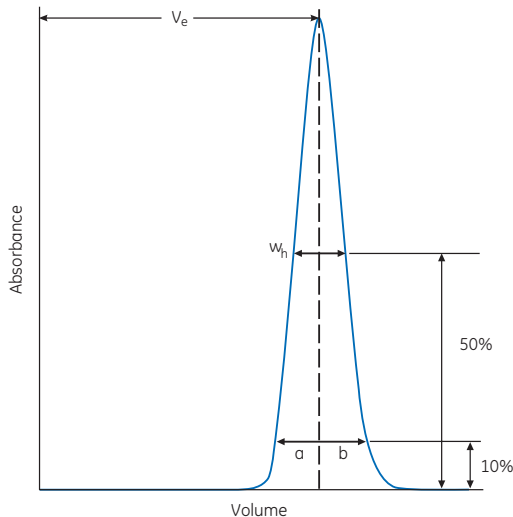

Fig A5.2. Measurements taken to calculate column efficiency.
Column performance should be checked at regular intervals by injecting acetone to determine column efficiency (N) and peak symmetry (asymmetry factor, A_s). Since the observed value for N depends on experimental factors such as flow rate and sample loading, comparisons must be made under identical conditions. In AC, efficiency is measured under isocratic conditions by injecting acetone (which does not interact with the medium) and measuring the eluted peak as shown in Figure A5.2.